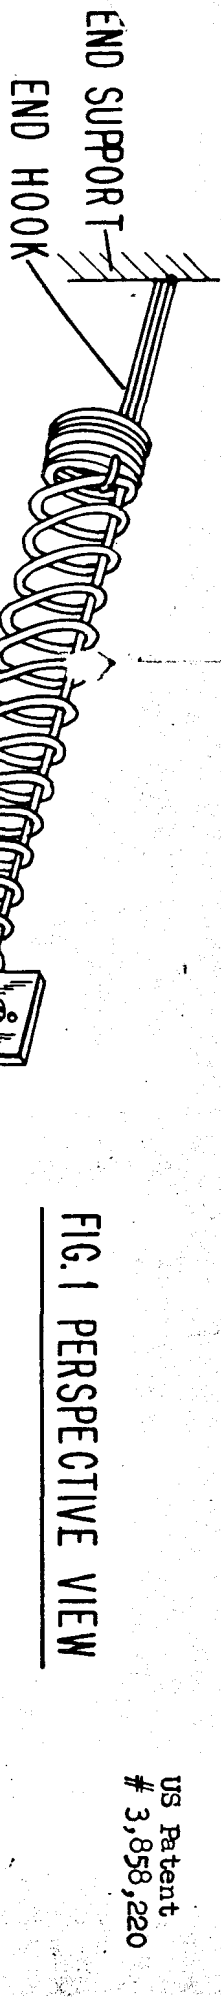

FIG. 1 PERSPECTIVE VIEW
1) Wind 6 1/2 turns of the RG58/U coax through the large holes in the center insulating card, as shown in Figure 1 through 4. The coil should be 4" in diameter, and should be taped using masking or electrical tape to form a stable coil. Attach PL259 coaxial connector to other end of coax.
2) Wind one turn of the end of each Slinky coil through the pair of 1/8" holes at the edges of the center insulating card. See Figure 1 through 4.
3) Separate the RG58/U coax center and outer conductors at the feed point, and solder the center conductor to one of the Slinky coils and the other (outer) conductor to the other Slinky coil, using rosin core solder (not acid core). Also, solder the Slinky to itself where it winds through the center insulating card. This prevents the Slinky coil from accidentally unwinding from the center insulating card. See Figure 1 through 4.